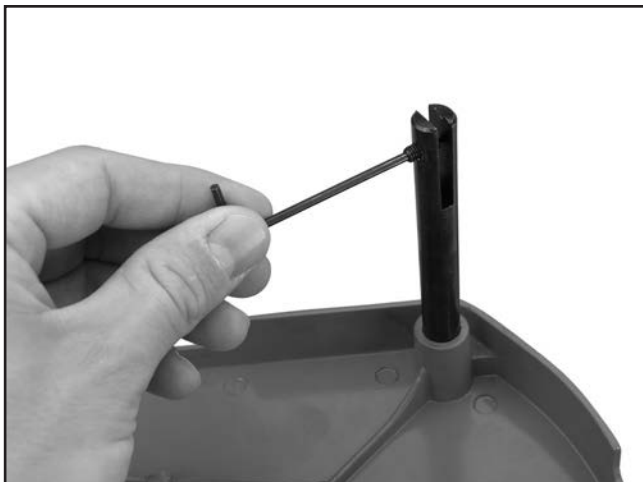

Figure 22. Set screw location.
1. Remove the set screw in the cutterhead guard shaft (see **Figure 22**).